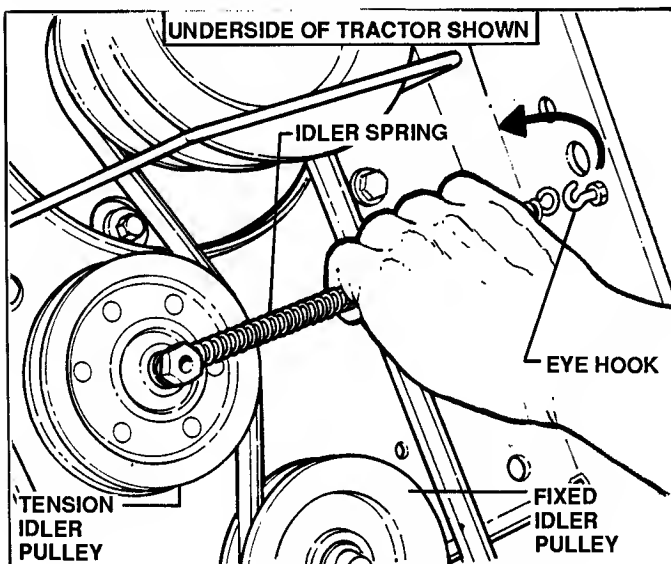

FIGURE 33
6. Disconnect IDLER SPRING. See Figure 33.